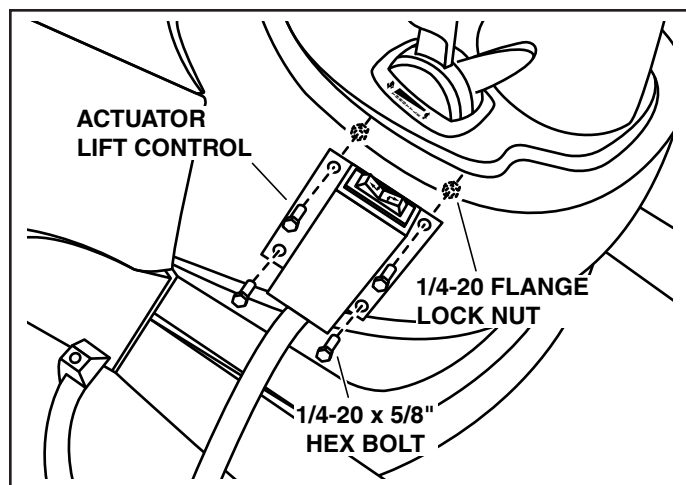

Figure 15.
1. See figure 15. Place the switch mounting bracket up to the left hand side of the dash. Drill a hole into the dash for each of the four holes in the switch mounting bracket.
2. See figure 15. Attach the switch mounting bracket with actuator switch to the dash using four 1/4-20 x 5/8" hex bolts and 1/4-20 flange lock nuts.